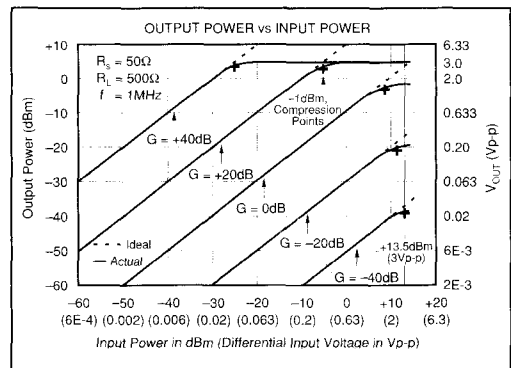

FIGURE 2. Input and Output Range.
NOTES: (1) See Input/Output Range discussion in Applications Information Section (Figure 2). (2) Gain is laser trimmed and tested over the -40dB to $+40\text{dB}$ gain range; $V_{IN} = 1\text{Vp-p}$ for gains less than 0dB ; $V_{OUT} = 1\text{Vp-p}$ for gains of 0dB to $+40\text{dB}$. (3) Output offset change from offset at $G = -40\text{dB}$. (4) Gain = $+40\text{dB}$; Input step of 2V to 2mV ; time required for output to return from saturation to linear operation. (5) $V_{IN} = 7\text{mVp-p}$, $V_{OUT} = 700\text{mVp-p}$ (250mVrms); Output Power = -10dBm/line , equal amplitude tones of $5\text{MHz} \pm 500\text{Hz}$, $G = +40\text{dB}$. See typical performance curves. (6) With $R_S = 0\Omega$, and noise bandwidth of 1MHz , $\text{IDR} = 20 \log (V_{ORMS}/(e_{ORMS} \times \sqrt{\text{BW}}))$; where V_{ORMS} is rms output voltage, e_{ORMS} is output noise spectral density, and BW is noise bandwidth.
The VCA610's 80dB gain range allows the user to handle an exceptionally wide range of input signal levels. If the unit's input and output voltage range specifications are exceeded, however, signal distortion and amplifier overloading will occur. The VCA610's maximum input and output voltage range is best illustrated in Figure 2.
Figure 2 plots output power vs input power for five voltage gains spaced at 20dB intervals. The 1dBm compression points occur where the actual output power (solid lines) deviates by -1dBm from the ideal output power (dashed lines). Compression is produced by different mechanisms depending on the selected gain. For example, at $G = -40\text{dB}$, 1dBm compression occurs when the input signal approaches approximately $3V_{p-p}$ (13.5dBm for $R_s = 50\Omega$). Input overloading is the compression mechanism for all gains from -40dB to about -5dB . For gains between -5dB and $+5\text{dB}$, the compression is due to internal gain stage overloading. Compression over this gain range occurs when the output signal becomes distorted as internal gain stages become overdriven. At $G = 0\text{dB}$, 1dBm compression occurs when the input exceeds approximately $1.5V_{p-p}$ (7.5dBm). At gains greater than about 5dB , the compression mechanism is due to output stage overloading. Output overloading occurs
As shown in Figure 2, the onset of overload occurs whenever the actual output begins to deviate from the ideal expected output. If possible, the user should operate the VCA610 within the linear regions shown in order to minimize signal distortion and overload delay time. However, instances of amplifier overload are actually quite common in Automatic Gain Control (AGC) circuits which involve the application of variable gain to signals of varying levels. The VCA610's design incorporates circuitry which allows it to recover from most overload conditions in 200ns or less. Overload recovery time is defined as the time required for the output to return from overload to linear operation following the removal of either an input or gain control overdrive signal.